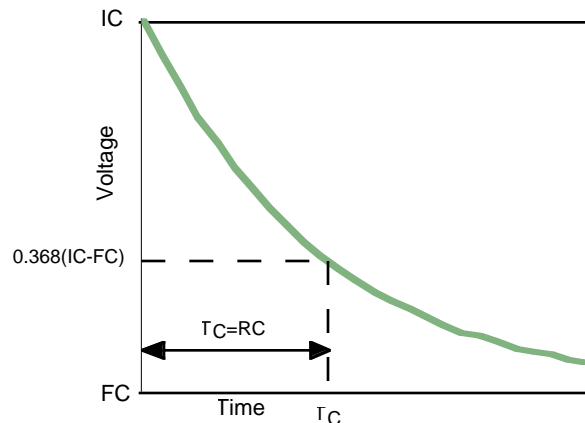

Figure 4. Oscilloscope display of exponential decay waveform
- b. Adjust the scope's horizontal and vertical position knobs and the trigger slope and level so that the waveform is completely visible, but fills the scope face. Line up the start of the exponential waveform with the vertical grid line on the left edge of the scope face. Set the horizontal scale (time base) so the trace looks something like Figure 4. It is not necessary that you be able to see 5 time constants; but it is good practice to expand the display so that at least 50% of the scope face is used for measurements (as shown in Figure 4).
- d. Method 2 of MEASURING the time constant T_C — curve fitting: **Use Benchlink Scope as described in Appendix 2 to make a printout or bitmap file of the oscilloscope display.** This display will be analyzed as part of your lab writeup. Because you will use this display to determine T_C it is very important that you adjust the voltage sensitivity to get a display similar to that shown in Figure 4. You can use the oscilloscope's vertical positioning adjustment to accurately place the waveform's start at the left top of the screen.
- a. Determine (IC - FC) from your printout. This value of (IC - FC) should be the peak-to-peak voltage of the source and should be near 8 V. Locate the voltage $0.368 \cdot (8 \text{ V}) = 2.94 \text{ V}$ on your printout. This should typically be about one third of the way up from the bottom of the oscilloscope display (as shown in Figure 4). This voltage level is significant because one time constant has elapsed when the exponential has decayed to 36.8% of the difference between the initial voltage and the final voltage. Determine this time T_C from your plot.